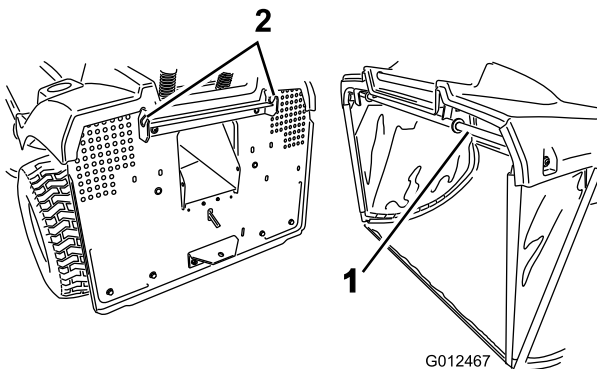

Figure 40
1. Hang the top support bar onto the 2 notches in the support bracket at the rear of the machine (Figure 40).